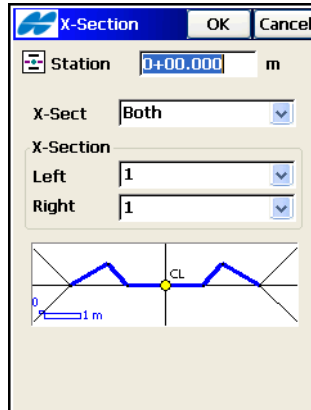

Figure 7-30. Cross Section Parameters
- **Edit** – opens the *X-Section* screen (Figure 7-30 on page 7-32) to edit the selected cross section.
The *X-Section* screen (Figure 7-30) contains parameters of the road cross-section at a given distance and a plot of the cross-section.